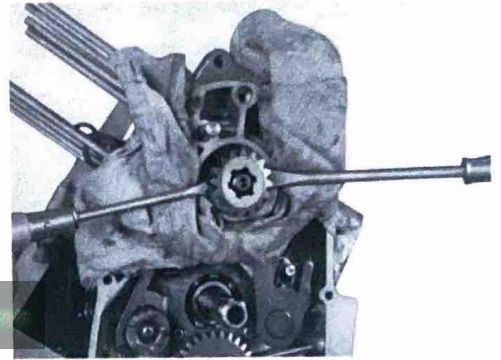

Fig. 4-10-2
- To remove the gear, use two slot-head screw-drivers in the manner as shown in Fig. 4-10-2.